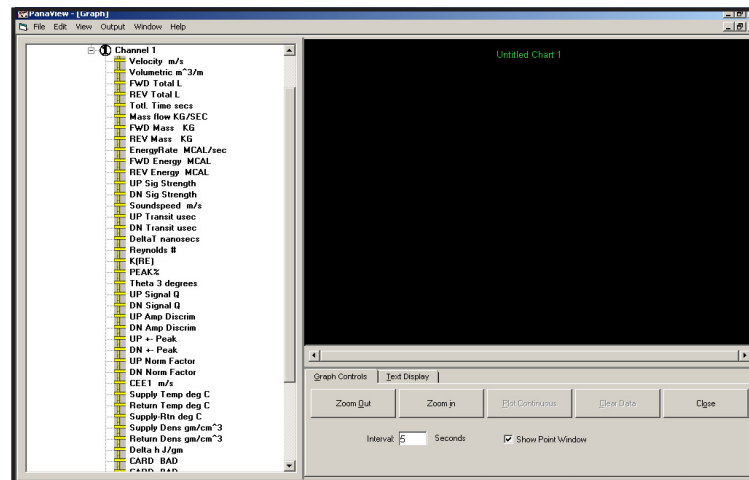

Figure 4: Graph Window
3. Using the *Window* menu, arrange the open windows in the desired format. For this discussion, Figure 4 shows the *Graph* window in its maximized (full-screen) size.